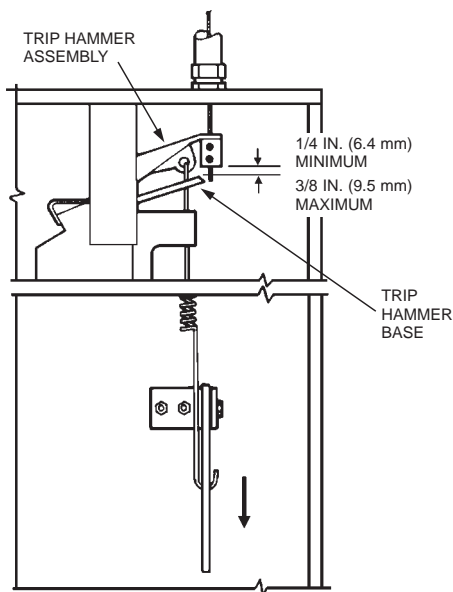

FIGURE 19
28. Inspect the base of the wire rope clamping device to make certain that there is a minimum of 1/4 in. (6.4 mm) to a maximum of 3/8 in. (9.5 mm) clearance between the base of the trip hammer assembly and the cable lever assembly. See Figure 19.